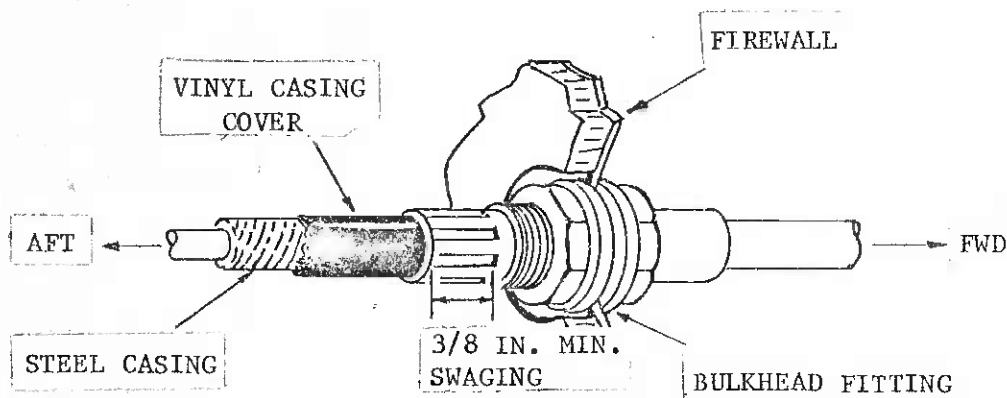

Figure 1. Throttle Control Bulkhead Fitting
It has come to our attention that some part nos. 507002-1 or 507002-2 throttle control assemblies may have been improperly swaged at the firewall bulkhead fitting. (see figure 1) Improper swaging of this assembly can result in separation of the outer casing from the bulkhead fitting and subsequent partial loss of throttle control due to the outer casing sliding out of the bulkhead fitting when the throttle is opened.
2. Measure the length of the swaging marks on the aft end of the firewall bulkhead fitting as shown in figure 1. If the swaging is less than 3/8 inches the cable must be removed from service.